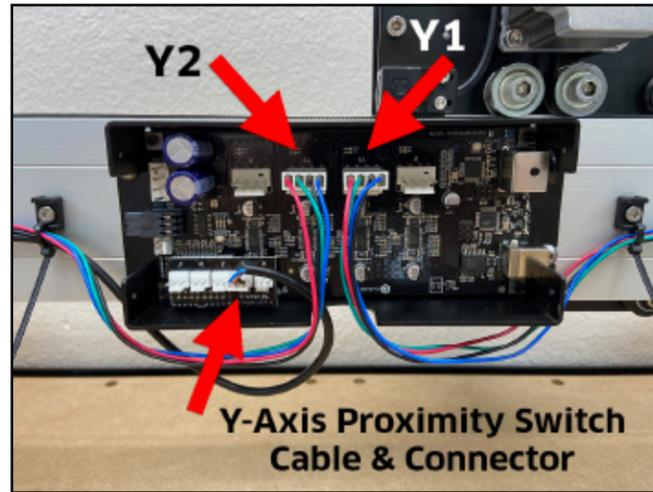

Figure 7-11
1. Plug the Y1- and Y2-motor cables into the corresponding connectors on the Carbide Motion board labeled "Y1" and "Y2." See **Figure 7-11**.
2. Plug the Y-Axis proximity switch cable into the corresponding connector labeled "Y" on the PCB riser board. See **Figure 7-11**.